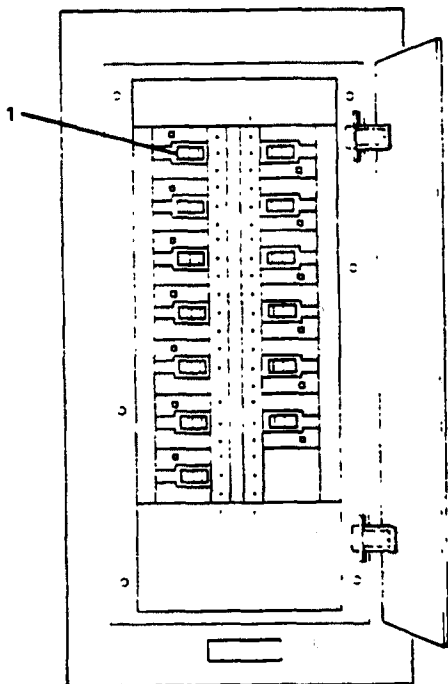

Figure 2-264. Engine Room Power Panel No. 1.
(1) Align electrical system.
(a) Engine room power panel no. 1 (Figure 2-264). Set L.O. XFER PUMP circuit breaker (1) to ON position.
(b) Engine room power panel no. 1 (Figure 2-264). Set L.O. XFER PUMP circuit breaker (1) to OFF position.